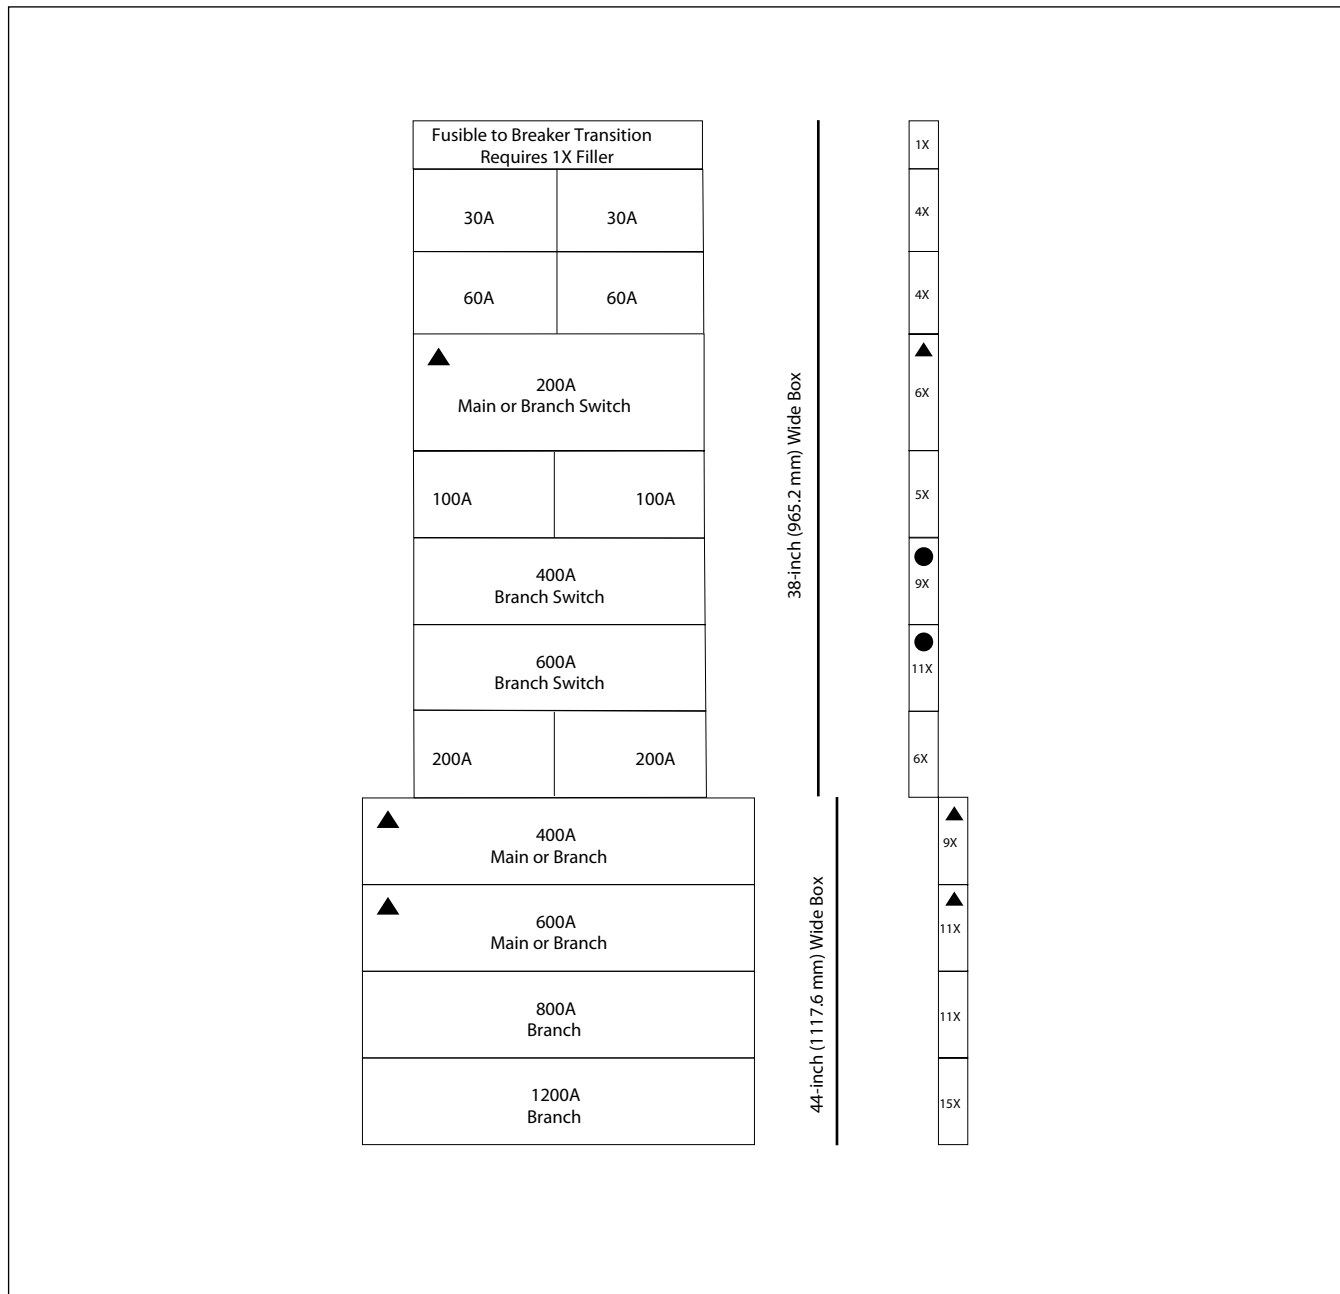

Figure 2-7. Branch and Horizontally Mounted Main Device Layout — PRL4F
* = Space available for branch devices. For device sizing, see **Figure 2-7** on **Page 2-21**.